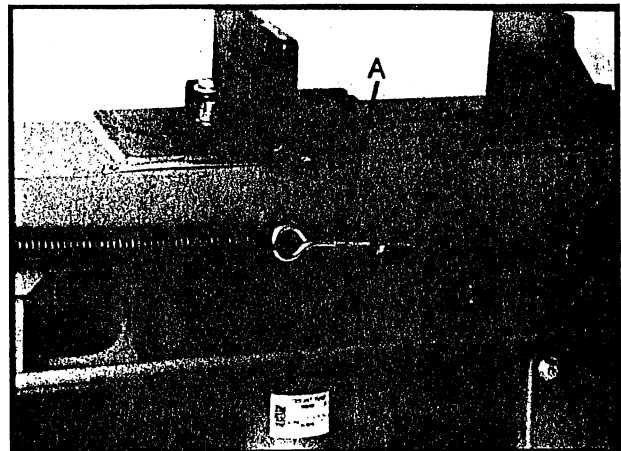

Fig. 13
5. Adjust tension to approximately 12-15 lbs. by turning bolt (A-Fig. 13)